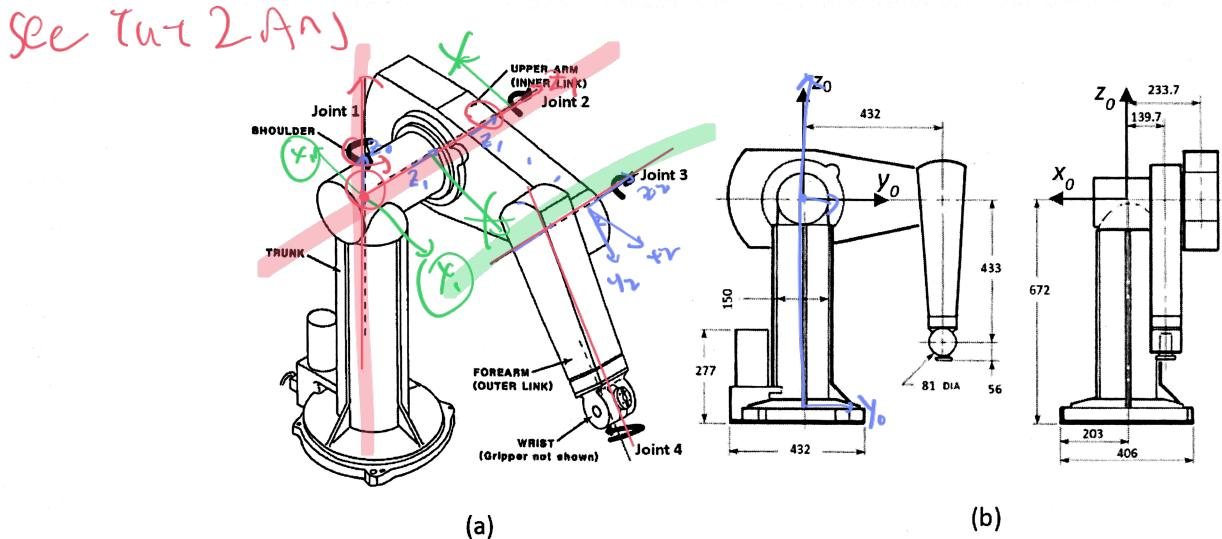

Figure 4
4. An illustration of an industrial robot used for pick-and-place is shown in Figure 4(a) without its end effector. The arm has four joints: $\mathbf{q}_1 = \{\theta_1, \theta_2, \theta_3, \theta_4\}^T$.
- Given the base coordinate system in Figure 4(b), draw the coordinate systems i ($i=1$ to 3) of the robot up to the wrist joint. (Note: Sketch a skeletal diagram in isometric view & provide the positions and directions of the coordinate systems in your answer.) (10 marks)
- Tabulate the Denavit-Hartenberg (D-H) parameters for the position of the robot shown in Figure 4(b) for joints 1 to 4, according to the coordinate systems specified in part (a). (6 marks)